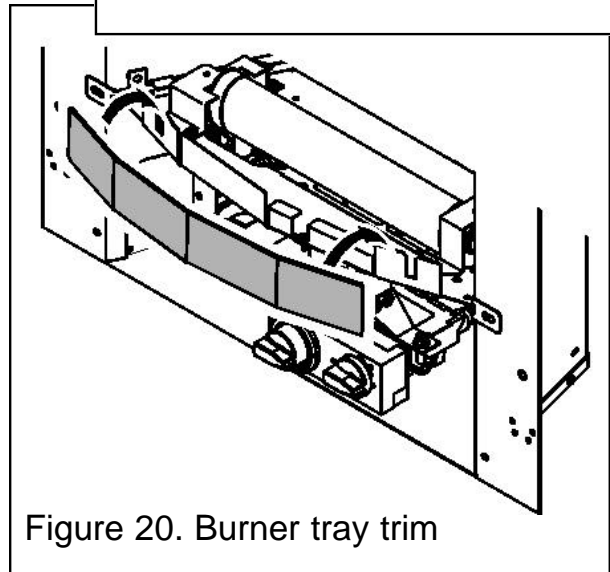

Figure 20. Burner tray trim
1. Fit the burner tray trim over the front rim of the burner tray. Push the trim fully down (See figure 20).